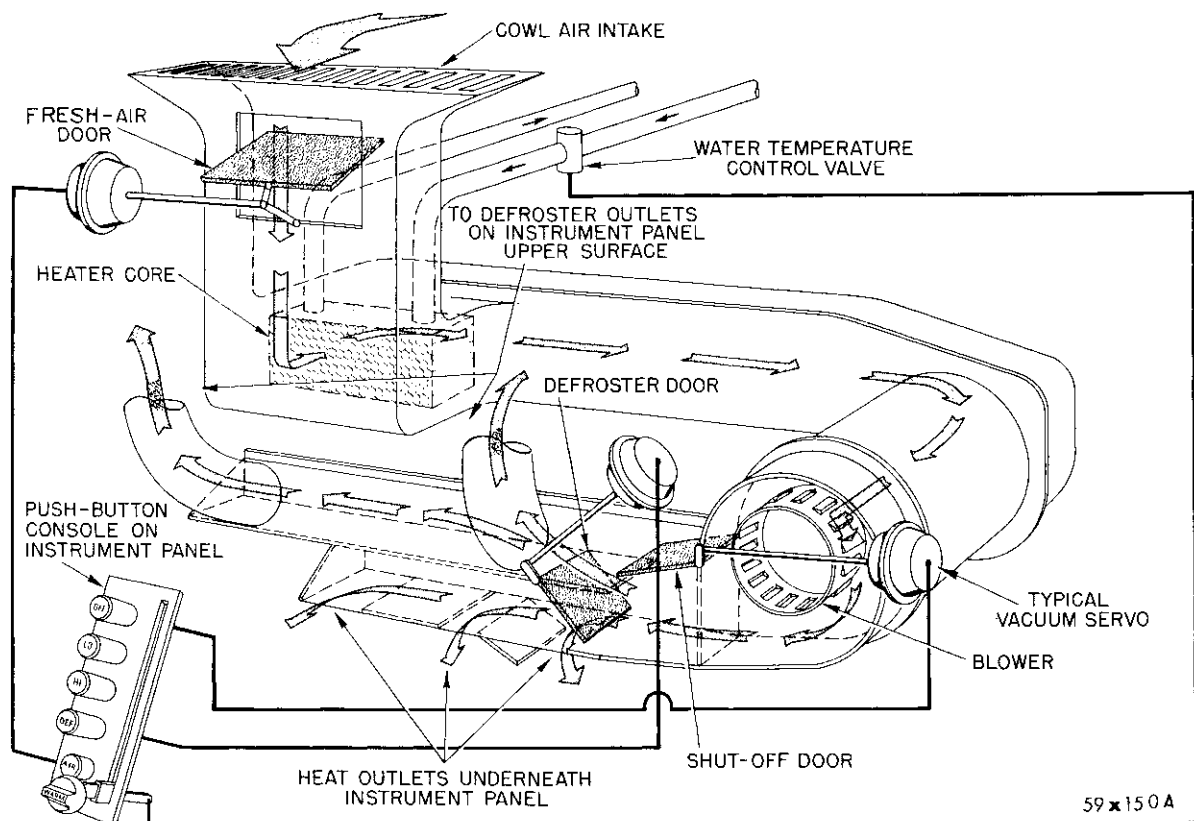
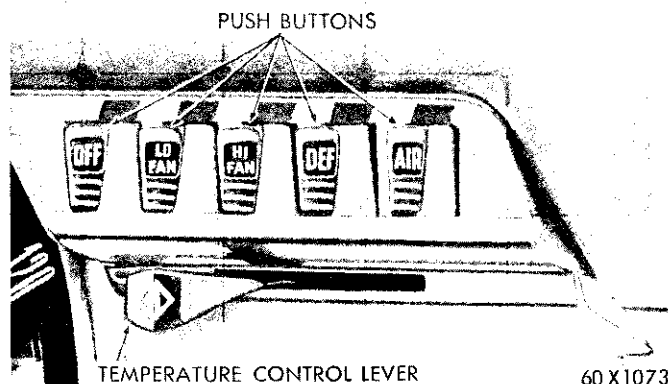

Fig. 18—Push Button Operated Heater (Schematic View)
Fig. 19—Temperature Control Heater
The hot water heating system (Fig. 18) used on all 1960 models for heating and defrosting is controlled by four push buttons and a temperature control lever (Fig. 19). A fifth push button independently controls the summer ventilation system.
**Summer Ventilation**—is controlled by opening of the ventilator air damper (Fig. 18).
**For Heating**—air enters through the cowl air intake (Fig. 18) passes through the heater core into the blower and distribution duct through the opened shut-off damper (Fig. 18).
**Defrosting**—is controlled by the defroster damper (Fig. 18). For maximum defrosting or deicing, the temperature control lever must be set in the full warm position.